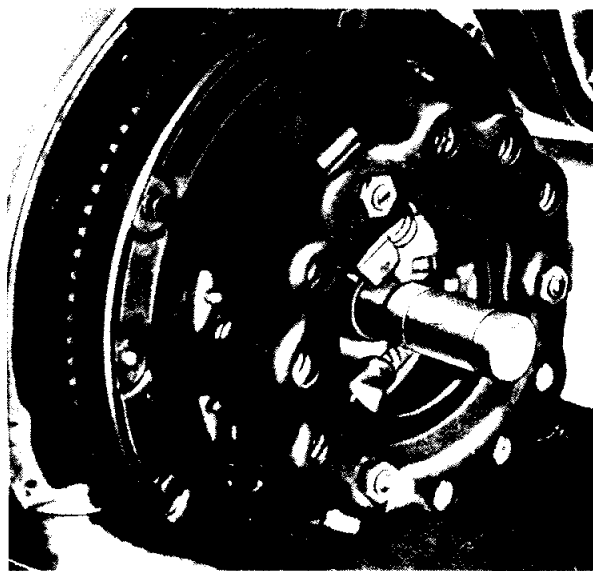

Fig. 6 Showing Constant Pinion Mandrel in
25. REPLACEMENT OF CLUTCH TO FLYWHEEL (Fig. 6)